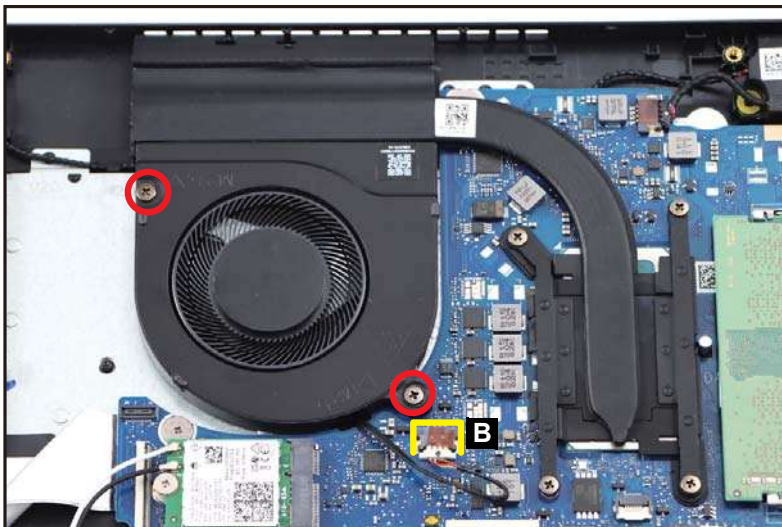

Figure 3-108. Replacing the Fan
2. Install and secure two (2) screws to the fan (Figure 3-108).
3. Connect the fan cable to the mainboard connector (B) (Figure 3-108).